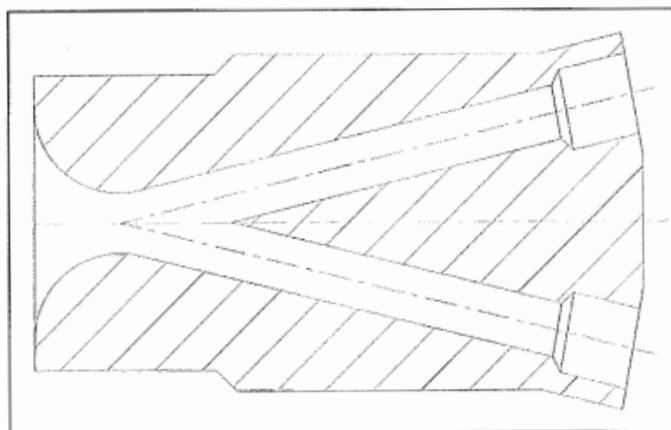

Figure 2, Venturi Distributor (PSLE)
- PSLE series evaporators are supplied with a Venturi-Type distributor as per Figure 2.